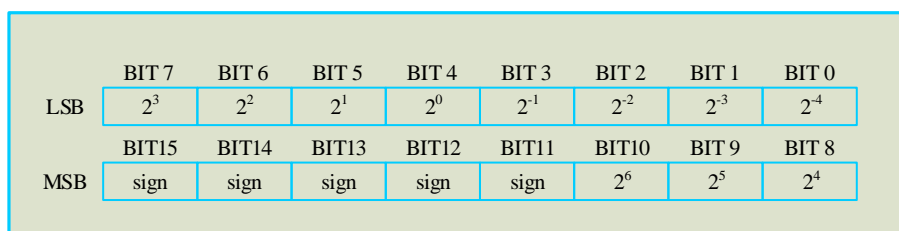

Figure 2. Temperature Register Format
conversion routine must be used. The temperature data is stored as a 16-bit sign-extended two's complement number in the temperature register (see Figure 2). The sign bits (S) indicate if the temperature is positive or negative: for positive numbers $S = 0$ and for negative numbers $S = 1$. If the GX18B20 is configured for 12-bit resolution, all bits in the temperature register will contain valid data. For 11-bit resolution, bit 0 is undefined. For 10-bit resolution, bits 1 and 0 are undefined, and for 9-bit resolution bits 2, 1, and 0 are undefined. Table 1 gives examples of digital output data and the corresponding temperature reading for 12-bit resolution conversions.